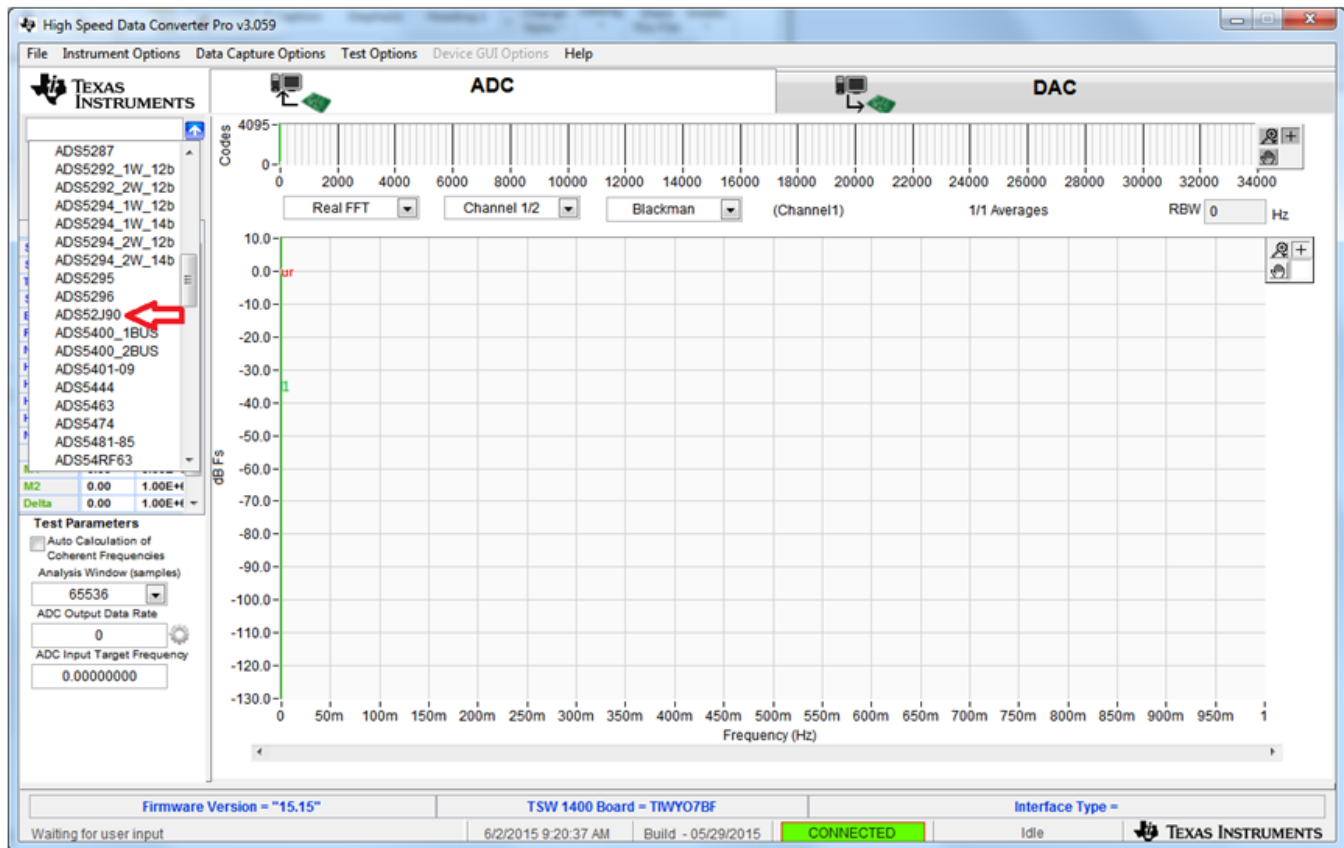

Figure 11. TSW1400 GUI Setup (d)
2. Select a device firmware to load in the FPGA by clicking on the blue arrow in the upper left corner of the *HSDCpro* GUI. Scroll down and select *ADS52J90* as shown in Figure 11.